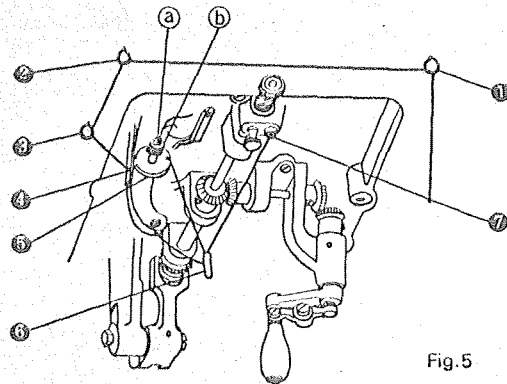

Fig. 5
- ⑧: Tension Complete
- ⑨: Tension Bracket
- ①: Tension Controller Spring
- ⑪: Presser Foot Lifter
- ⑫: Stitch Rotating Hand Lever Handle
- ⑬: Needle Plate Thumb Screw
- ⑭: End of Looper Shaft
- ⑮: Nipple
- ⑯: Nipple Holder
- ⑰: Nipple Carrier Thumb Screw
7. TO THREAD THE MACHINE (Figs. 5, 6 & 7)
1) For the thread (Figs. 5 & 6)
Three thread eyelets are furnished with the machine. These eyelets should be fastened to the underside of the table as shown at ①, ② and ③, Fig. 5. Eyelet ① should be located directly above the cone of thread.
11. TENSIONS (Fig. 5)
The tension on the thread is regulated by the thumb nut ①, Fig. 5 at the left of the tension discs. To increase the tension turn this nut over toward you. To decrease the tension turn this nut over from you. This tension should be only tight enough to prevent the skipping of stitch.